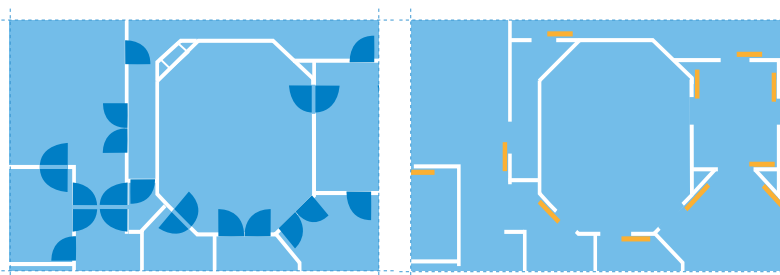

Figure 3. Sliding vs swing doors can save up to 15 % of space based on opening area that swing door requires
3. Available space	<ul style="list-style-type: none"> How critical is to save space in each concrete case (see Figure 3)? What space is required for particular door type installation?
- Certain door types can save more space than others. For example, sliding doors are up to 15% more space efficient than standard swing doors, which require 1.5–2 m² of floor space for opening (see Figure 3).